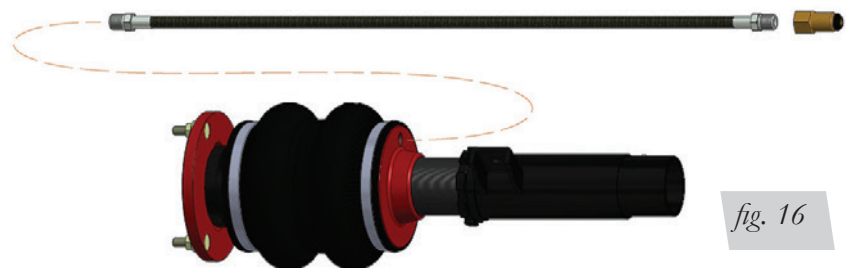

fig. 16
1. Begin by installing the leader line into the air spring (Fig. 16). Wrap the threads of the leader hose with thread sealant. Tighten the appropriate fitting to the leader line 1 3/4 turns beyond hand tight. Tighten the leader line into the air spring 1 3/4 turns beyond hand tight.